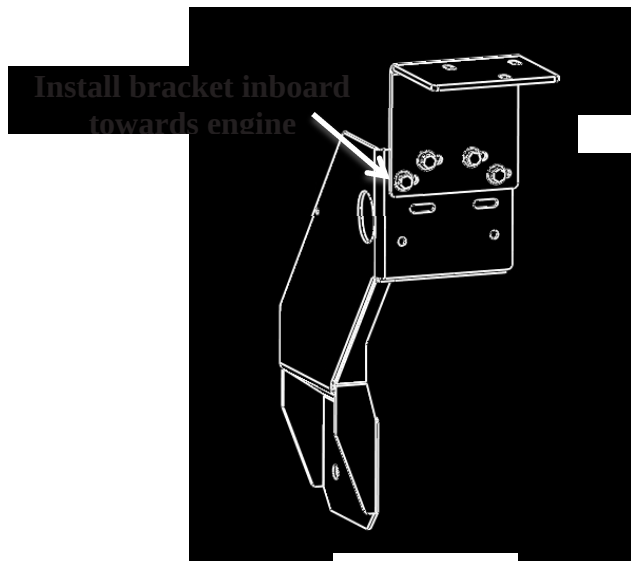

FIG. 3-1
3. Install 0587-HH3-001 bracket using existing hardware. Refer to FIG. 3-1.